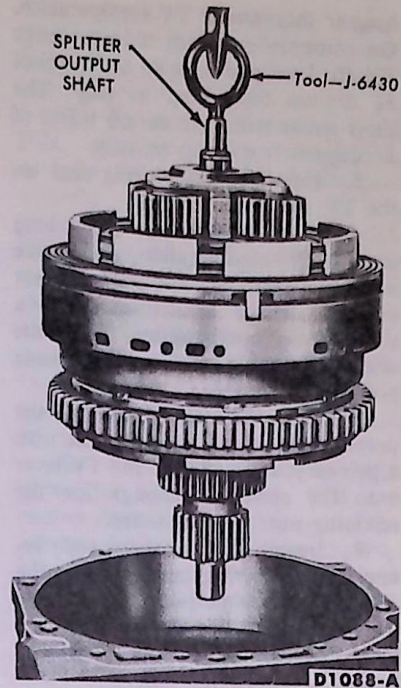

FIG. 21 Removing Splitter Mechanism
11. Remove the anchor bolts that hold the low-splitter piston housing and diaphragm assembly. Then install the lifting hook in the end of the splitter outshaft and remove the assembly (Fig. 21).